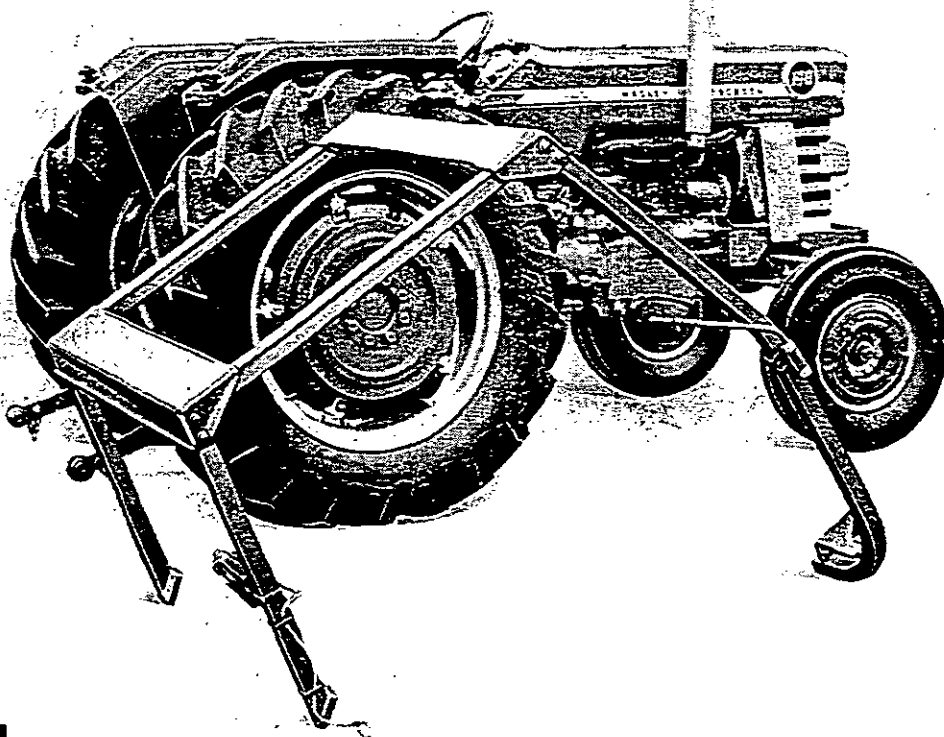

FIG. 3
- 3A. If a crane is available: Remove the L.H. front strut as shown in Fig. 2, then, using a crane support the frame by slinging from the roof member. Remove the remaining bolts securing the other three legs to the tractor, then lift the complete assembly off the tractor as shown in Fig. 3.